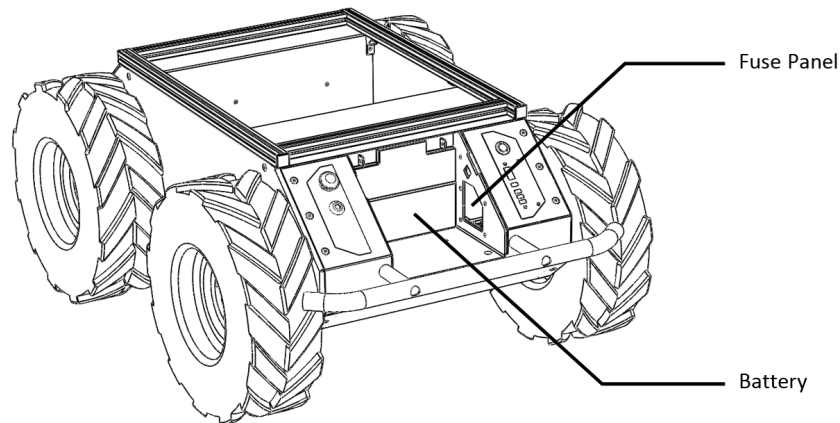

Figure 7: Husky Battery Area
3. Carefully connect the battery plug to the mating connector in the fuse panel, shown in Figure 7. Ensure that it is firmly seated and clicks into place. It will be difficult to connect it in the incorrect polarity.